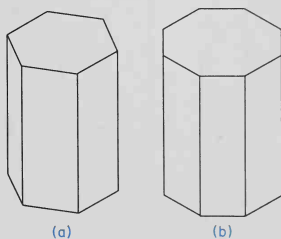

Fig. 11-6. Hexagonal and octagonal prisms.
A prism is a solid object with parallel sides and bases which are identical, such as the hexagonal prism (a) and the octagonal prism (b) shown in Fig. 11-6. A prismatic container is an enclosed object in the shape of a prism.
1. Develop the pattern for the hexagonal or the octagonal prismatic containers, shown in Fig. 11-6.